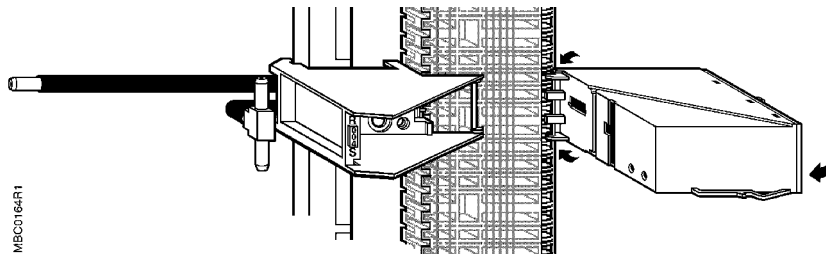

Figure 7. Installing an AO-P Module.
3. Align the AO-P module mounting guides with the right edge of the M-BUS rail (Figure 7).